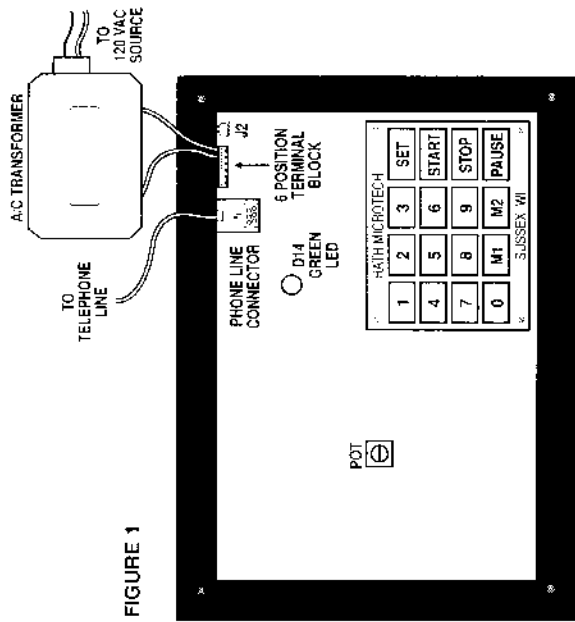

FIGURE 1
5. 120 VAC power has been properly connected when D14 (GREEN LED) is lit. The GREEN LED is located above the programming keypad on the *SMARTPHONE III* board. (See Figure 1, above.)
*SMARTPHONE III* to the phone line, make sure line cord has been fed through the desired hole in the *SMARTPHONE III* box. Connect telephone line cord to the appropriate modular telephone jack. (See Figure 1, Page 4.)
When *SMARTPHONE III* is properly connected to the telephone line and to 120 VAC you will hear dial tone when you activate the *SMARTPHONE III* and D14 (GREEN LED) is lit. (See Figure 1, Page 4)